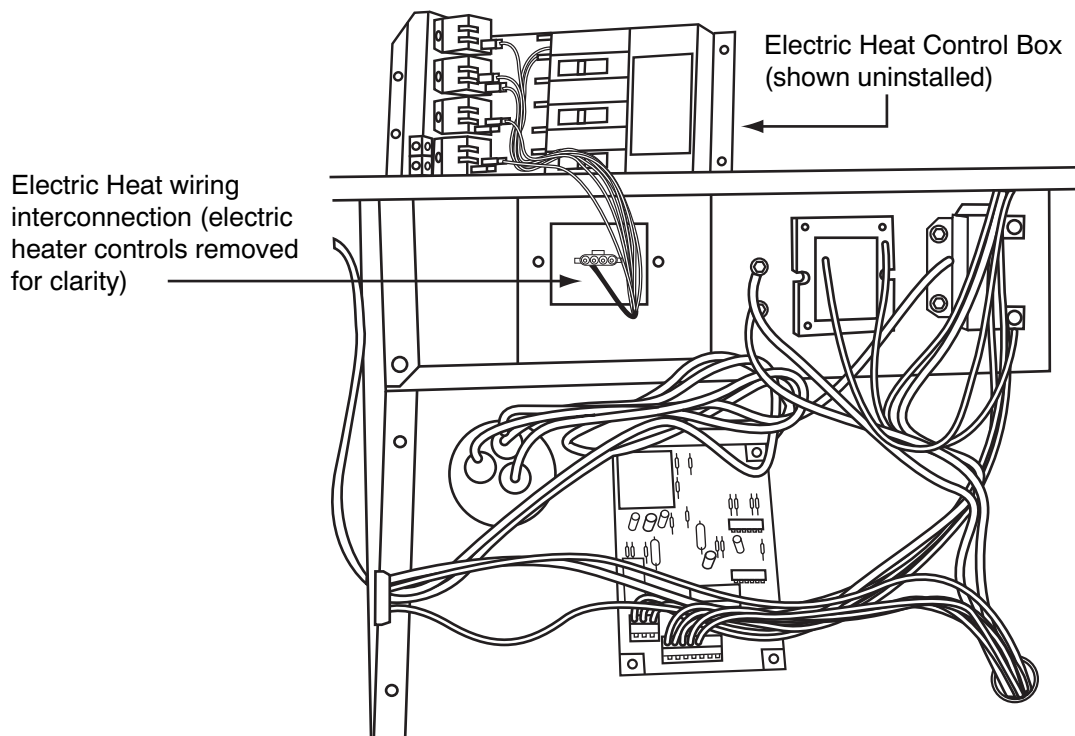

Fig. 5 – Unit Control Box Compartment
11. Open heater package and remove heater control panel; set heater control panel on top of unit (See Fig. 5).